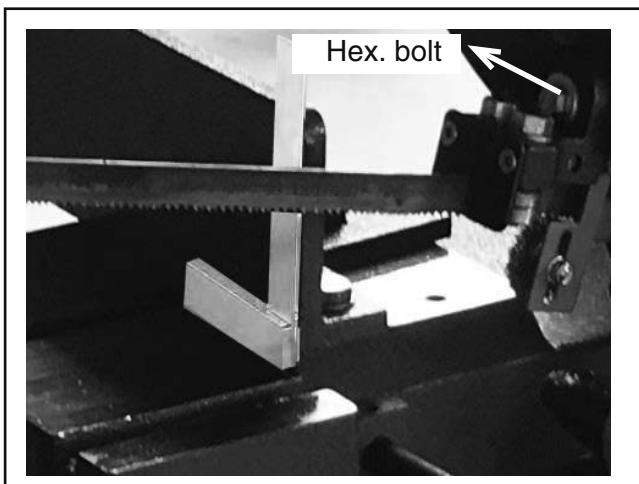

Figure 29. Square placed on table bed against edge of blade.
3. Place a square on table bed and against edge of blade (see **Figure 29**), and check different points along length of table between blade guides.